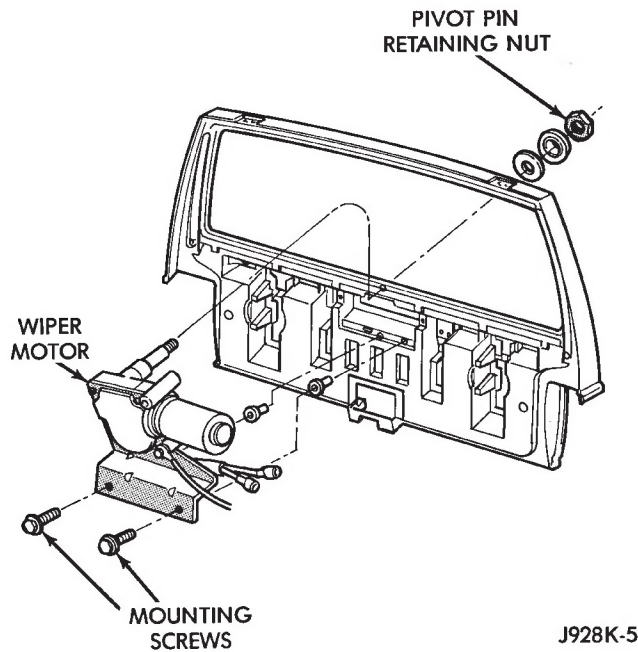

Fig. 8 Liftgate Wiper Motor Remove/Install
(2) Slide clip along hose until clip is off hose mounting.
(3) Disconnect the washer hose.
(4) Remove pivot pin retaining nut (Fig. 8).
(5) Remove external bezel and seal.
(6) Remove the liftgate interior trim panel.
(7) Disconnect the wiper motor at the wiring harness.